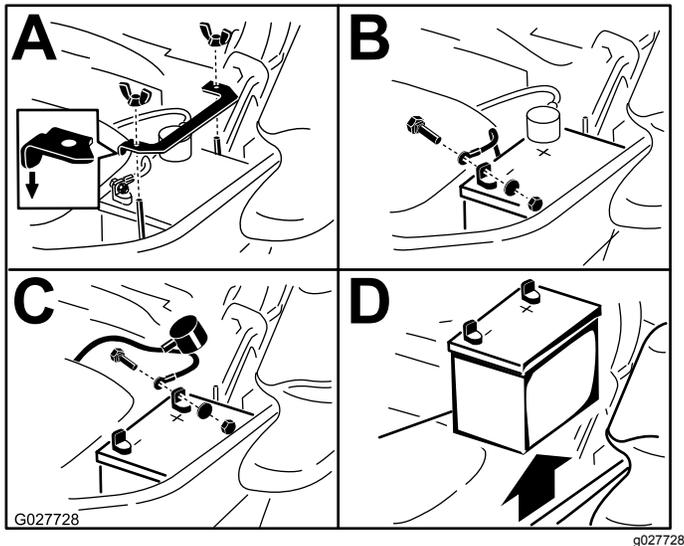

Figure 70
3. Remove the battery as shown in Figure 70.
Note: Position the battery in the tray with the terminal posts opposite from the hydraulic tank (Figure 70).